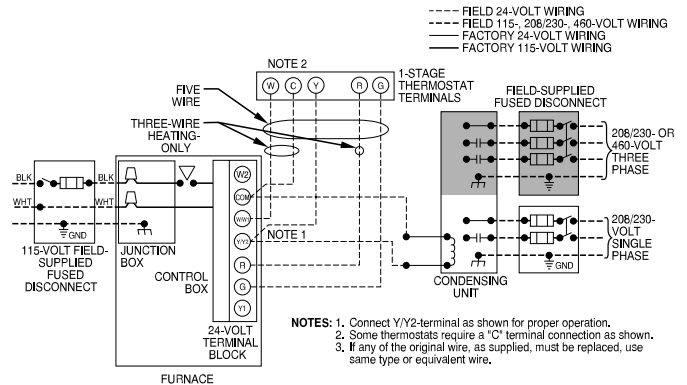

Fig. 24 – Typical Field Wiring Diagram
See Fig. 24 for field wiring diagram showing typical field 115-V wiring. Check all factory and field electrical connections for tightness.
- Connect line voltage leads. (See Fig. 24).
Make field 24-V connections at the 24-V terminal strip. (See Fig. 24 - Fig. 29). Connect terminal Y/Y2 as shown in Fig. 30 for proper cooling operation. Use only AWG No. 18, color-coded, copper thermostat wire.